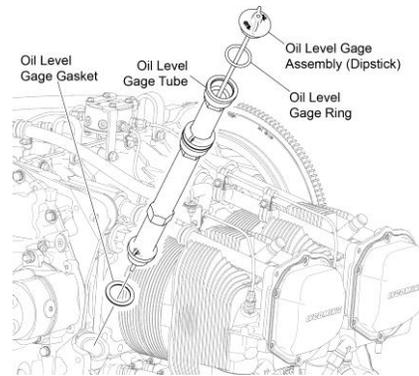

Figure 3
1. Pull out the oil level gage assembly (dipstick) (Figure 3) from the oil level gage tube.